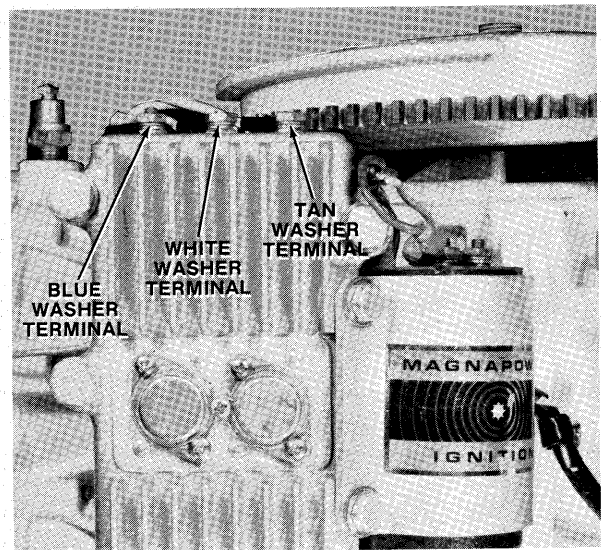

Figure 7 – C-D Unit
- A. Disconnect blue wire from blue washer terminal stud by removing hex nut. See figure 7.
- A. Disconnect blue lead wire from (+) terminal stud on coil by removing hex nut. See figure 7.
- C. Disconnect black lead wire from (G) terminal stud on coil by removing hex nut.
- E. Remove two (2) hex head screws securing coil clamp to C-D unit and pull coil down from clamp.
- A. Install coil in clamp and position coil as shown in figure 7.
- B. Secure coil in clamp with two (2) hex head screws with steel washer, then fiber washer under head of screw. Install plastic washers between coil clamp and C-D unit and tighten screws.